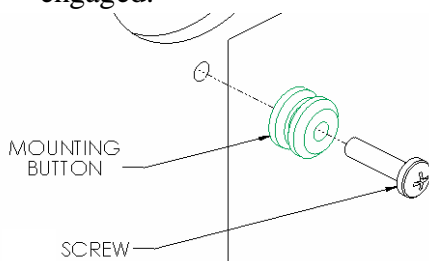
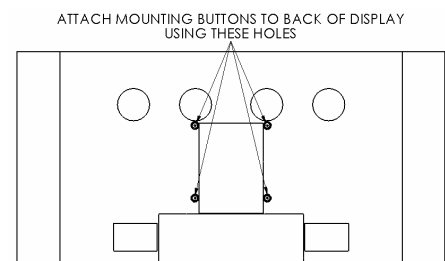

Figure 2
Figure 3
1. If applicable, remove rubber caps over mounting holes before attempting to attach buttons using four M5 screws provided (see Figure 2 & Figure 3).
2. Attach mounting buttons to display using correct length screws depending on screen (see Figure 2 & Figure 3).